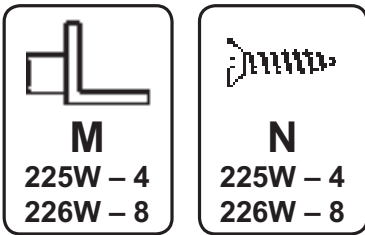
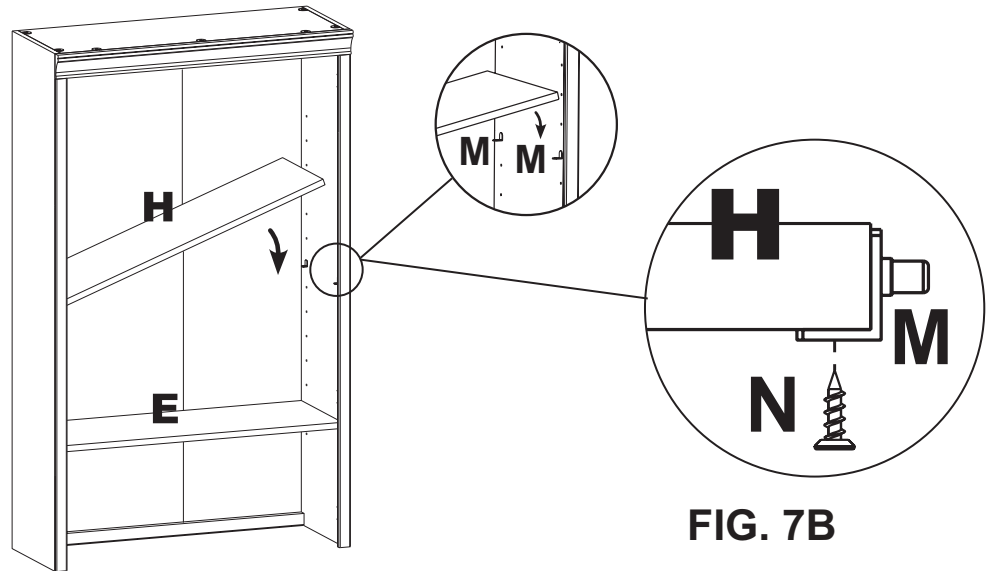

FIG. 7A
FIG. 7B
- Stand the unit upright. Determine where you want to locate the Adjustable Shelves (H). There is one Adjustable Shelf for the 225W and two Adjustable Shelves for the 226W. Tap the Shelf Brackets (M) into the holes with the flat side down. See Figure 7A. Insert the shelf as shown. Secure the shelf to the unit using Screw (N) through the holes in the bottom of the Shelf Bracket into the Shelf. See FIGURE 7B.